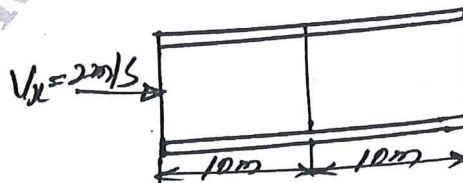

Fig.Q8(b)
b. For the smooth pipe with uniform cross-section of 1m2 as shown in Fig.Q8(b). Determine the flow velocities at the center and right end, by knowing the velocity at the left is  $V_x = 2 \text{ m/sec}$ . (10 Marks)